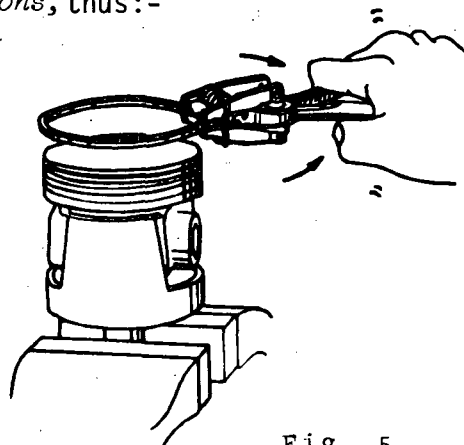

Fig. 5
- b) Remove the rings from the piston by using an extractor (fig. 5).